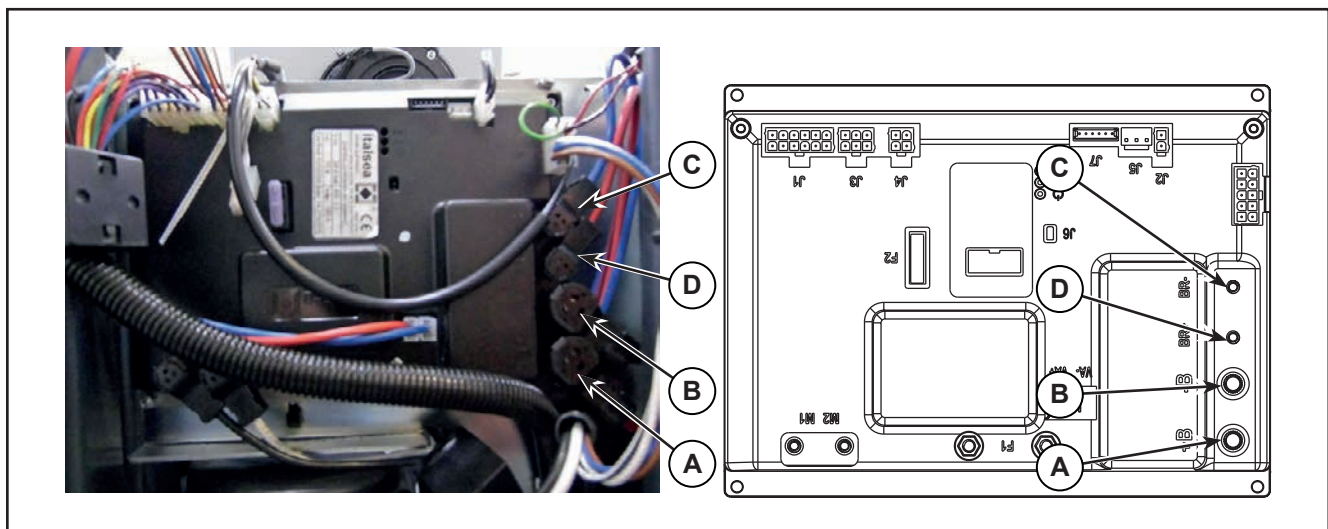

Figure 11:
6. Disconnect the following connections (Figure 11):
- (A) and (B) Main machine controller power supply connection (B+) and (B-).
- (C) and (D) Brush motor connection (BR+) and (BR-).